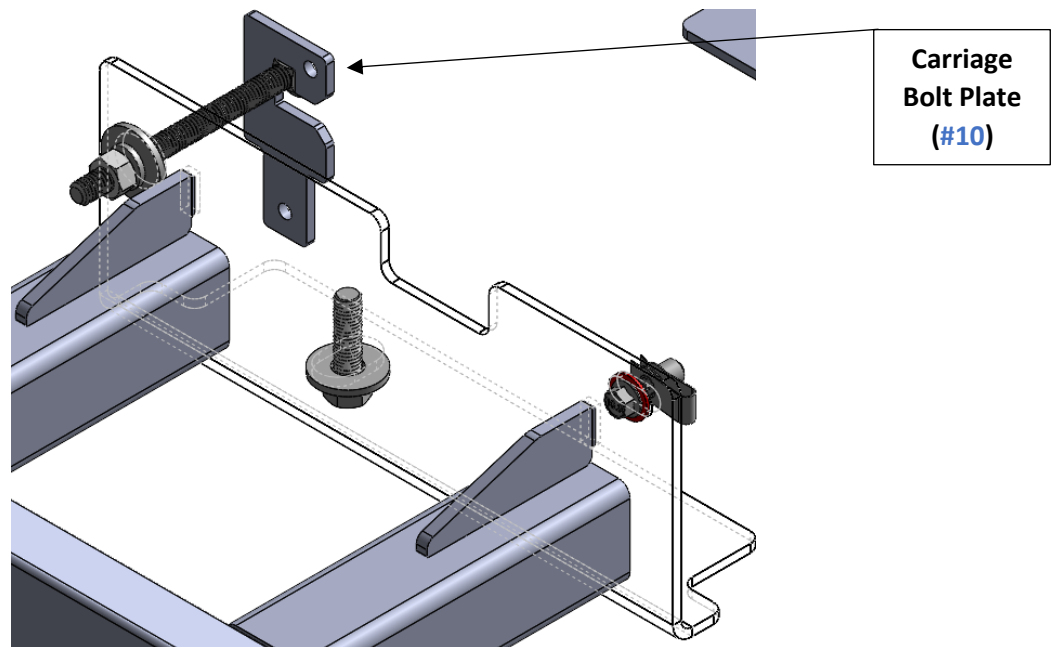

Figure 12
17) Take one of the Question Mark Carriage Bolt Plates (#10) and hang it over the square section on the 7/16" carriage bolt (#3) on the backside of the vehicle frame. These plates will secure the carriage bolts when tightening the nut to secure the slider frame plate. Hand tighten the 7/16" Hex Nut (#6) until the carriage bolt plate (#2) is snug against the frame. Reference *Figure 12*.
- 2) Additional mounting brackets will come with four (4) extra 5/16" Washers, four (4) M8 Lock Nuts, and two (2) M8 x 40mm Bolts.
- 5) Hold the bracket in place as depicted in Figure 12 and begin threading the M8 x 40mm bolt with one (1) 5/16" washer in the center hole of frame where the speed clip plate was installed earlier.
- 6) Collect two (2) of the M8 x 30mm Bolts and four (4) 5/16" Washers from the original hardware kit along with two (2) M8 Lock Nuts. Install these through the two openings towards the center of the vehicle in the following order: M8 x 30mm Bolt - 5/16" Washer - Vehicle Frame - 5/16" Washer - M8 Lock Nut.